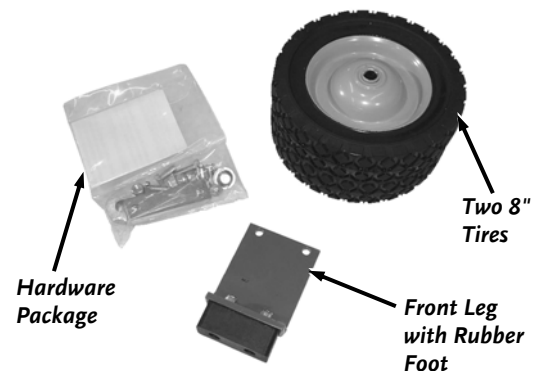

Figure 4
5. Open the Parts box, and make sure all the smaller parts have been shipped (*Figure 4*). The chart in the "Shipping List" (previous page) provides a complete list of all the parts shipped with your Wood Splitter. If you have any questions, please contact us at www.DRpower.com or call DR Power Equipment at 1-800-DR-OWNER (376-9637).